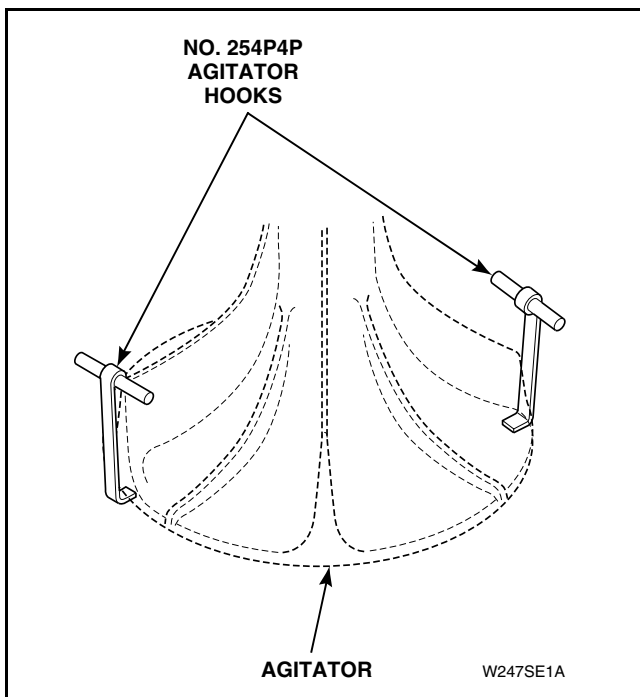

Figure 29
- Remove agitator by placing two agitator hooks, No. 254P4P, under bottom edge of agitator. Refer to *Figure 29*.